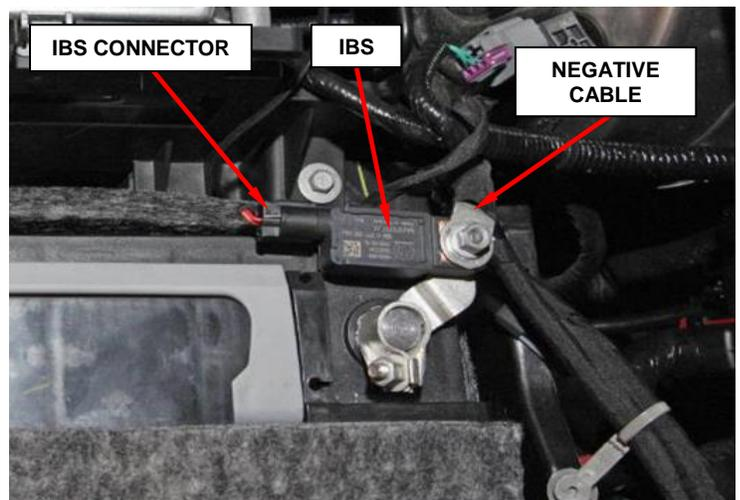

Figure 2 – Battery Ground Terminal and IBS
2. Disconnect the Intelligent Battery Sensor (IBS) wire harness connector (Figure 2).
3. Loosen the ground terminal nut and remove the negative battery cable with IBS from the battery and isolate it (Figure 2).
5. Install the negative battery cable with IBS to the negative post and tighten to 7N·m (62In. lbs.) (Figure 2).
6. Connect the IBS wire harness connector and close the hood (Figure 2).